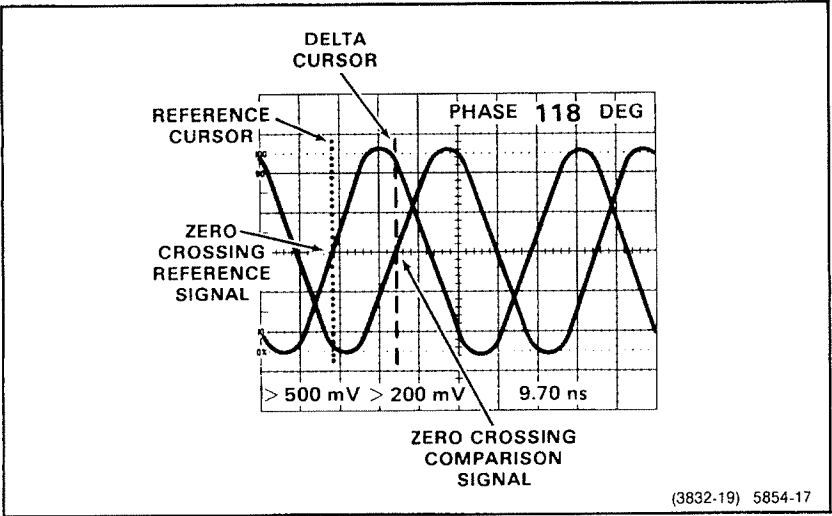

Figure 3-6. Phase difference between two signals.
6. Align the Reference cursor with a zero-crossing of the reference signal. Align the Delta cursor with the nearest zero-crossing of the comparison signal, on the same slope as the reference signal zero-crossing (see Figure 3-6). Use the center horizontal graticule line as the reference for aligning the zero-crossings.